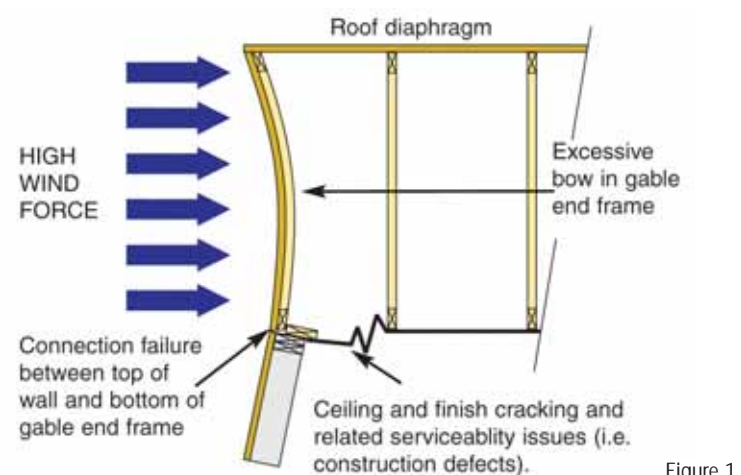

Figure 1.
2. The effect of wind on an improperly braced gable end wall can be seen in the Figure 1 (BCSI-B6 graphic).